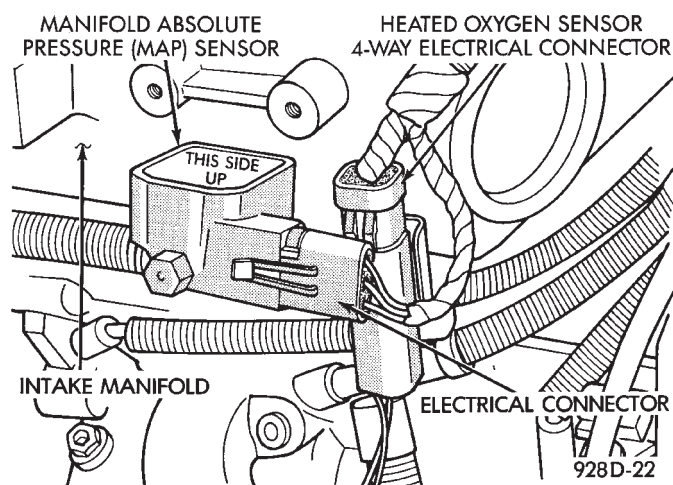

Fig. 18 Manifold Absolute Pressure Sensor
The alignment of the MAP sensor is critical to the sensors performance. The top of the sensor is marked This Side Up (Fig. 18).
- (1) Disconnect electrical connector from MAP sensor.
- (2) Remove sensor by unscrewing from the intake manifold (Fig. 18).
- (3) Reverse the above procedure for installation.